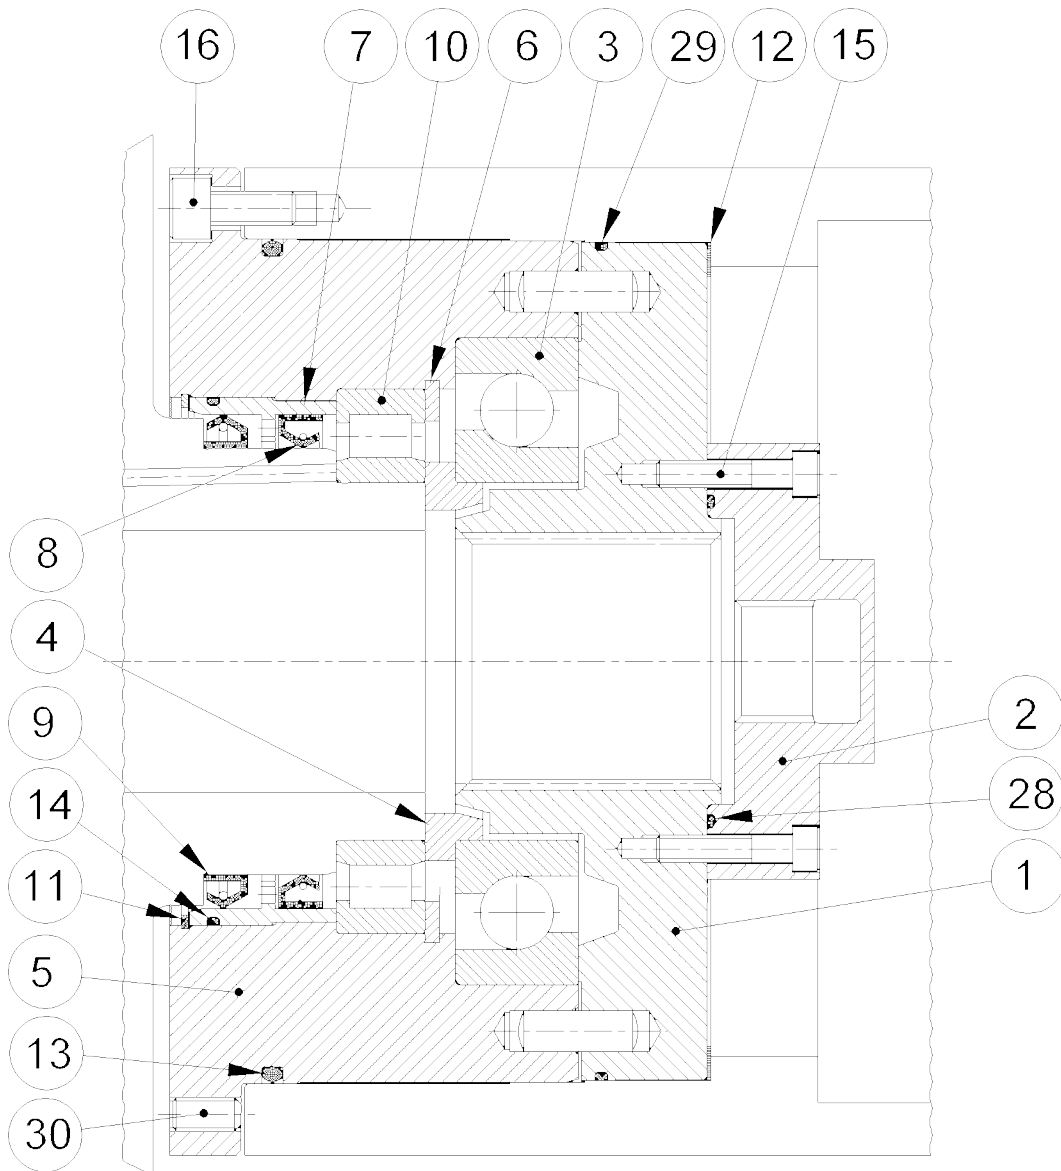

Figure 4.3.1
4.3 Conveyor Bearings (Fig. 4.3.1)
(Fig. 4.3.1)
Fit the angular contact ball bearing [3], *ensuring that the narrow shoulder of the outer race faces the seat for the bearing in the bearing holder [5].* Figure 4.3.1 shows how to turn bearing.